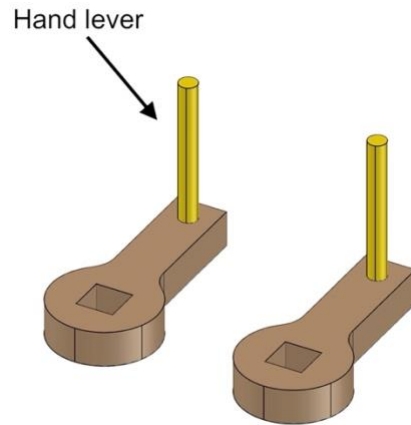

Fig. 58
- Fig. 58 shows the completed process (make two parts).